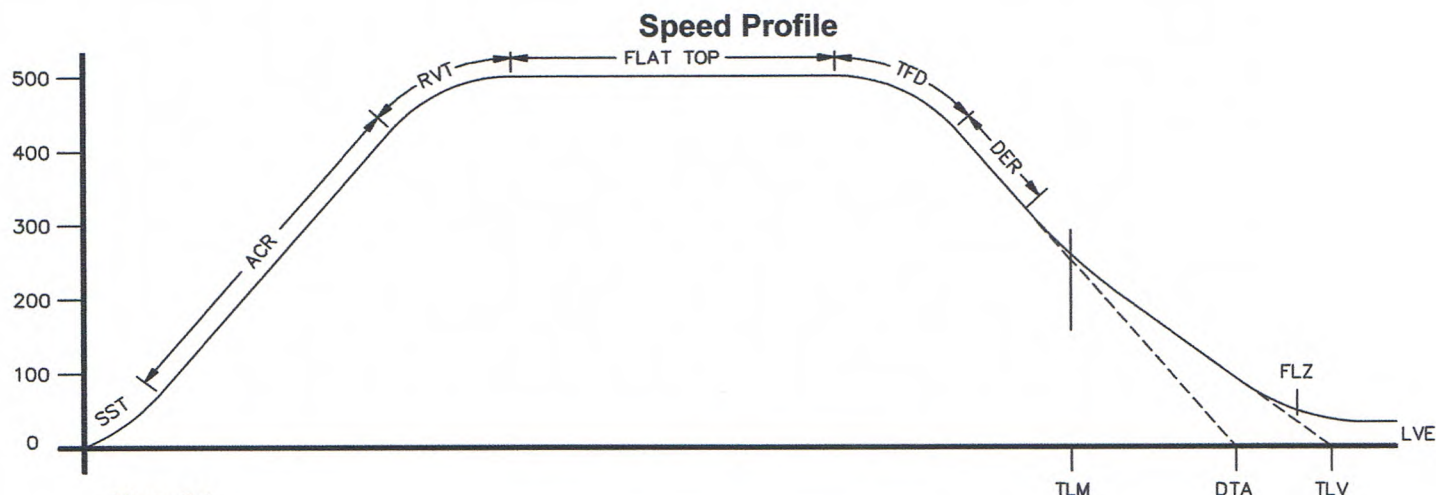

Figure 7-4
2. Using the parameters listed in **Figure 7-4**, adjust the “S Curve” profile for the desired acceleration and deceleration ride profile.